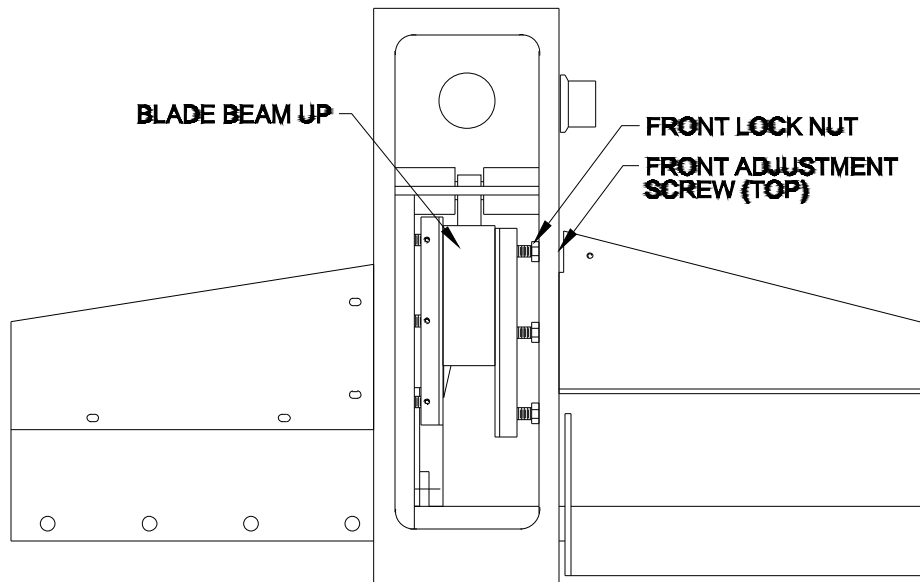
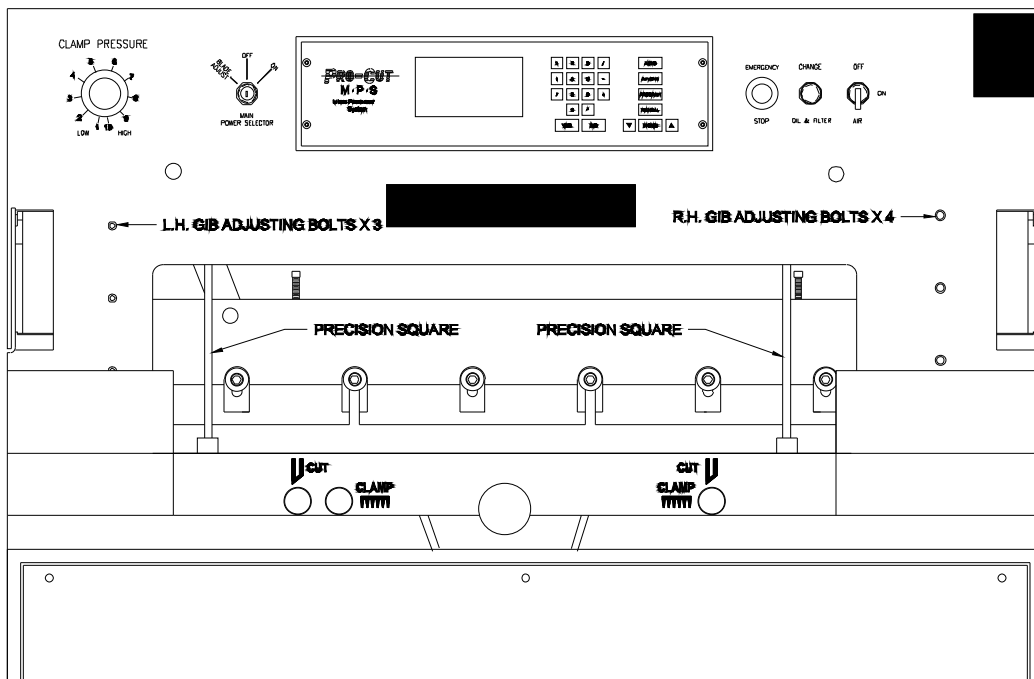
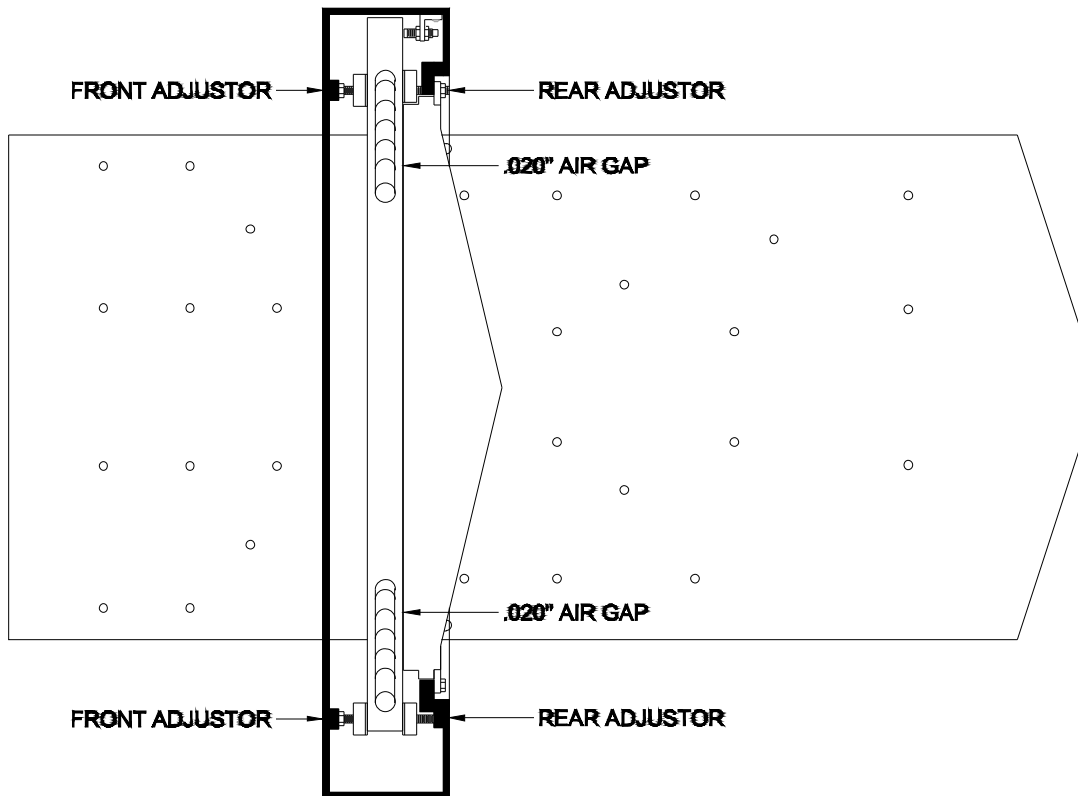

Fig 12
Fig 15
Fig 16
There are three (3) adjusters on the left front side and four (4) adjusters on the right front side. Fig. 15. They are located under the removable plugs. Removing the right side table accesses the lower right plug and adjuster. Remove the plugs and follow the adjustment procedure.
1. Start with the blade beam in the up position. Turn the "MAIN POWER SELECTOR" switch "ON" and allow the MPS to reset. Press the two (2) black cut buttons and start the main motor. When the blade beam is at the full up position, turn the "MAIN POWER SELECTOR" to "OFF".
3. Use a thin 3/4" open-end wrench to loosen the hex nut and a 1/4" Allen wrench on the adjuster screw **only where the blade beam is located**. **NOTE:** Never adjust the gibs when the blade beam is not at the gib adjusting screw! Loosen the nut and turn the Allen wrench until slight pressure is felt on the Allen wrench and zero (0) clearance between the gib and blade beam is obtained. Tighten the nut while holding the Allen wrench. Adjust left and right sides. Fig. 12.
There are three (3) adjusters on the left front side and three (3) or four (4) adjusters on the right front side. They are located under the removable plugs. Removing the right side table accesses the lower right plug and adjuster. Remove the plugs and follow the adjustment procedure. Fig. 15.
4. Turn the "MAIN POWER SELECTOR" switch "ON" and allow the MPS to reset, then turn the "MAIN POWER SELECTOR" switch to "BLADE ADJUST". Press the two (2) black cut buttons and start the main motor.
5. Press the two (2) black cut buttons and hold them. The blade beam will lower. Turn the "MAIN POWER SELECTOR" switch to "OFF".
6. Use a precision 12" square and place it on the front of the table and up to the blade beam on either side first. Fig. 15. On the same side use a 0.020" feeler gage and place it between the blade beam and the clamp. **NOTE:** Optimal setting is when the blade beam is square to the table and at 0.020" away from the clamp face on both sides. Fig. 16.
10. Turn the adjuster in the rear counterclockwise and the front adjuster clockwise to move the blade beam closer to the clamp. Make sure that you still have zero (0) clearance between the gibs and blade beam. Adjust both sides if necessary. Fig. 16 & 17.
11. Turn the adjuster in the front counterclockwise and the rear adjuster clockwise to move the blade beam closer to the clamp. Make sure that you still have zero (0) clearance between the gibs and blade beam. Adjust both sides if necessary. Fig. 16 & 17.
14. Turn the "MAIN POWER SELECTOR" to "ON" and allow the MPS to reset. Press the two (2) black cut buttons and start the main motor. The blade beam will raise up.